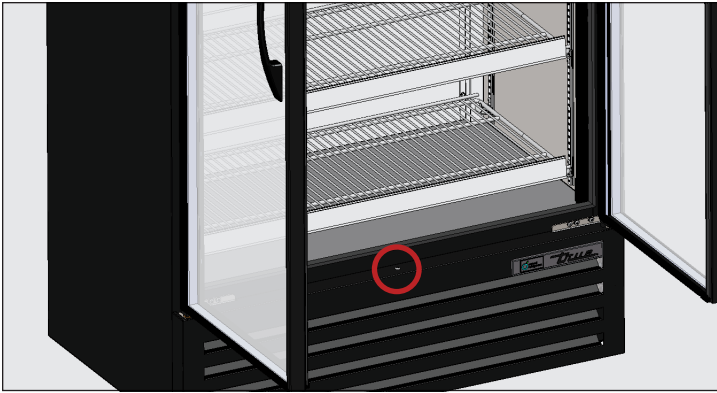

Fig. 1. Swing door louver grill screw location.
2. Remove the front louvered grill from the appliance. See fig. 1 and 2.